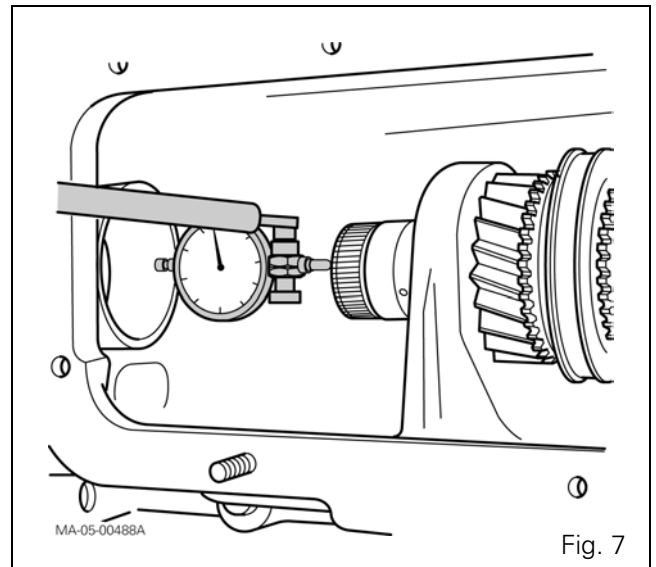

Fig. 7
34. Position the dial gauge feeler pin at the end of the shaft (Fig. 7).